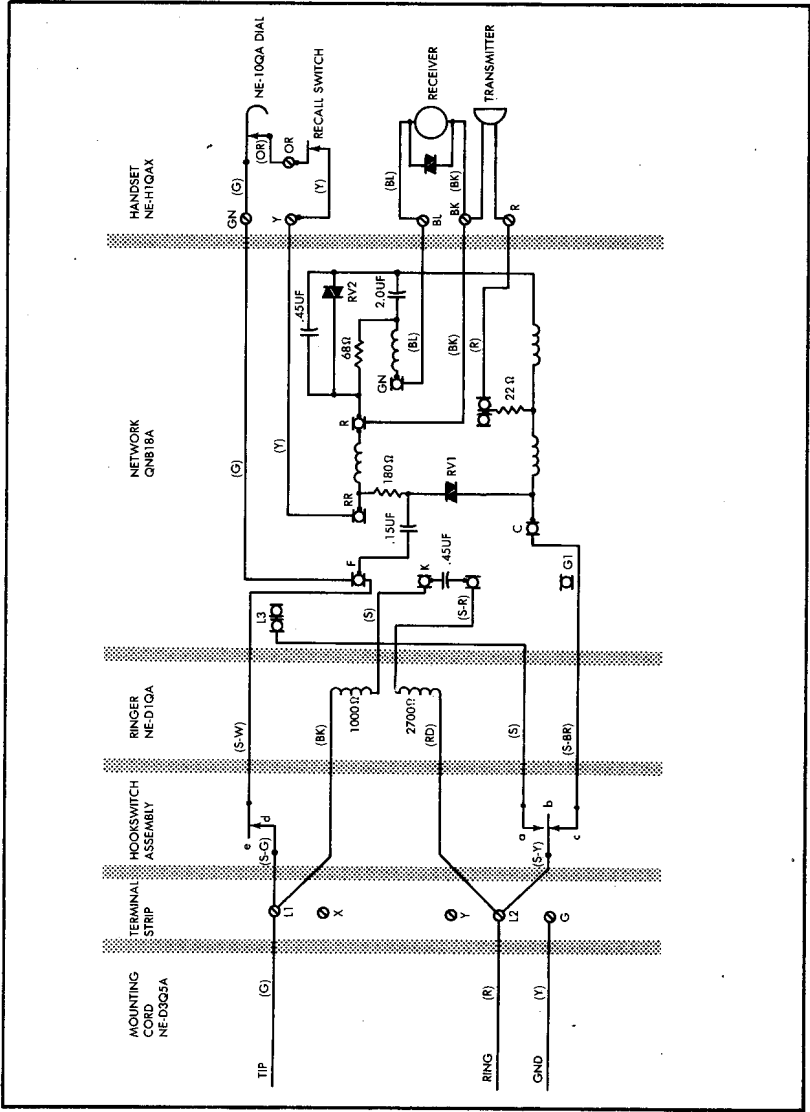

FIGURE 17. QSK100 and QSK191A Telephone Sets—Connections Single Line, Rotary Dial
6.01 The connections for single-line sets are shown in Tables B, D and E and Figure 17, 18 and 19 for